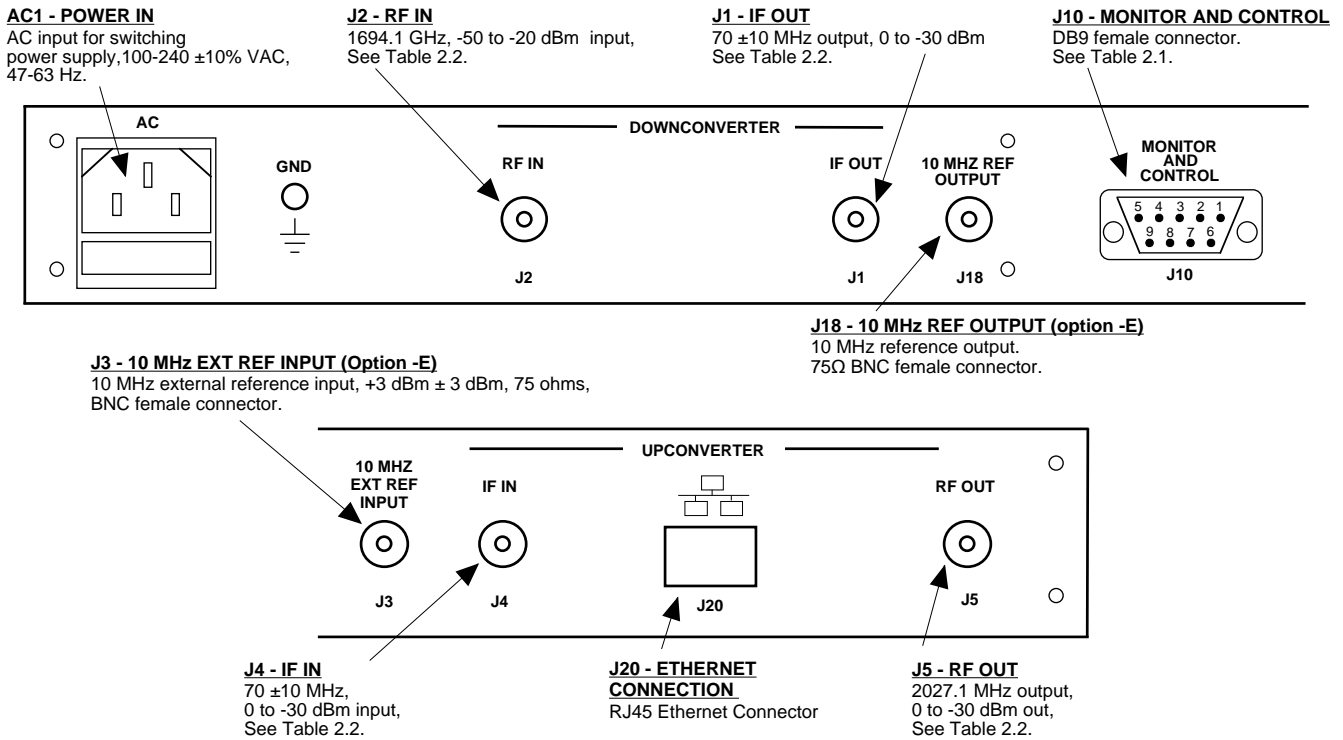

Figure 2.1 Model 2017-2016 Rear Panel I/O's
Figure 2.1 shows the input and output connectors on the rear panel.
- 1.) Connect a 0 dBm to -30 dBm signal to IF In, J4 (Figure 2.1).
- 1.) Connect a -50 dBm to -20 dBm signal to RF In, J2 (Figure 2.1).
When the internal reference mode is selected, the unit's internal 10 MHz reference will become the 'primary' source and the unit's synthesizers will lock to this internal 10 MHz reference. The unit will ignore any external 10 MHz signal present on the external reference input (J3 in figure 2.1). The unit will also buffer the internal 10 MHz signal and provide it on the Reference Out connector (J18 in figure 2.1) at +3 dBm, +/- 3 dB.